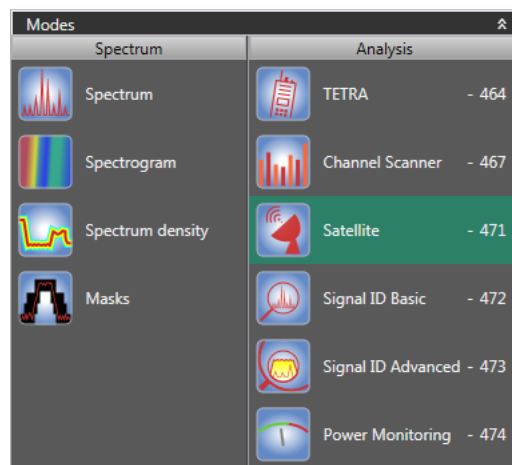

Figure A-2. Satellite -471 Mode Selected
3. Select the **Satellite** icon (option 471) under the Modes tab. See Figure A-2, “Satellite -471 Mode Selected”.